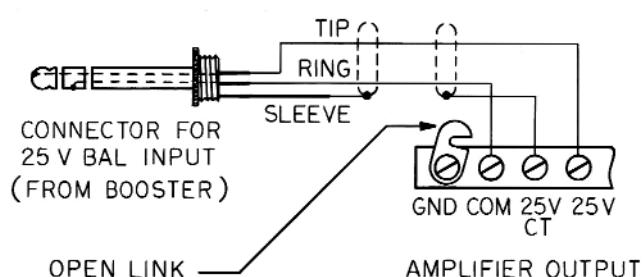

Figure 6 – Booster Amplifier Output Connection for MCP35A
**8. 25V BAL. INPUT** - (From Booster) Stereo phone jack accepts input from a booster amplifier. Refer to Figure 6.
Model BPA60 provides increased power output. To install, connect a cable terminated in a male phone plug from the MCP35A Line Out jack to the Hi-Z input jack on the rear panel of the amplifier. Connect the 25V output from the amplifier to input jack labeled 25V BAL INPUT. Refer to Fig. 6.